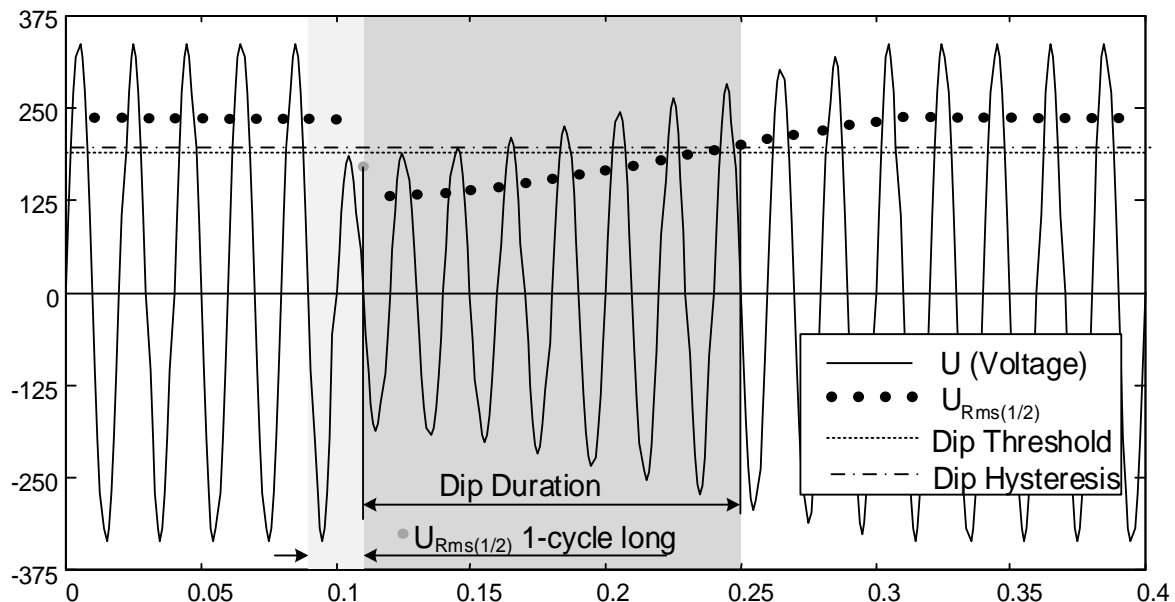
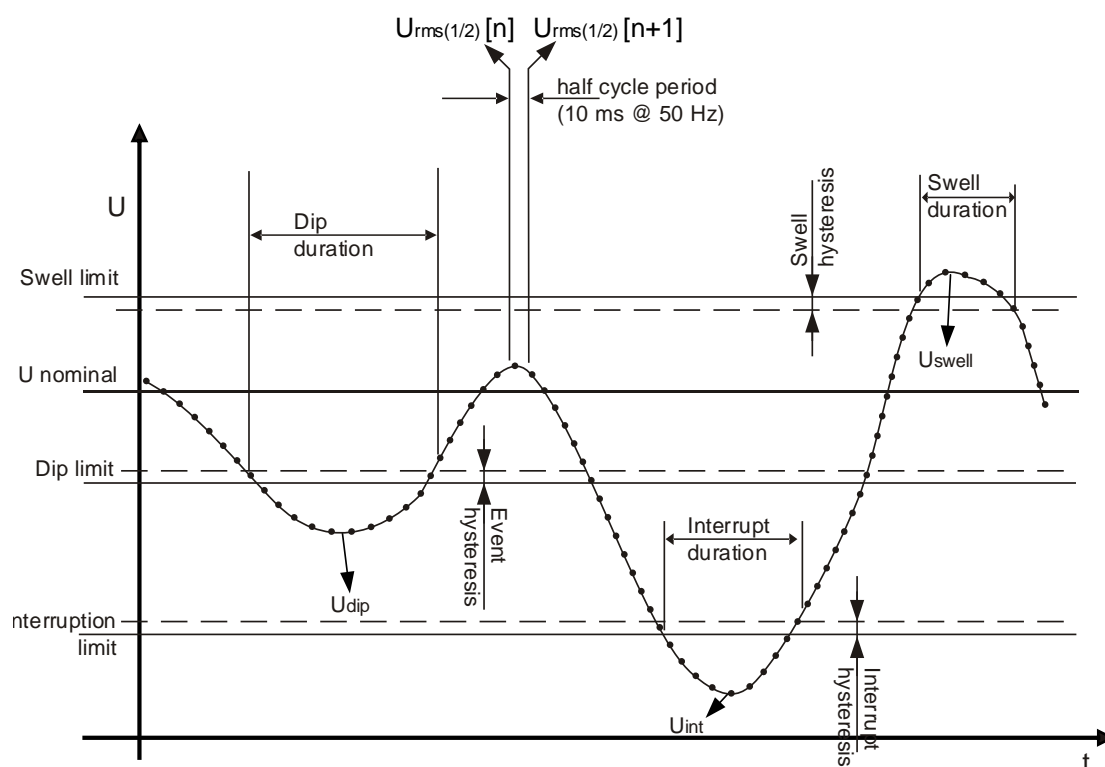

Figure 5.9:  $U_{Rms(1/2)}$  1-cycle measurement
Figure 5.10 Voltage events definition
- On single-phase system (Connection type: 1W), a voltage dip begins when the  $U_{Rms(1/2)}$  voltage falls below the dip threshold, and ends when the  $U_{Rms(1/2)}$  voltage is equal to or above the dip threshold plus the hysteresis voltage (see Figure 5.10 and Figure 5.9).
- On single-phase system (Connection type: 1W), a voltage swell begins when the  $U_{Rms(1/2)}$  voltage rises above the swell threshold, and ends when the  $U_{Rms(1/2)}$  voltage is equal to or below the swell threshold plus the hysteresis voltage (see Figure 5.10 and Figure 5.9),
- On single-phase system (1W), a voltage interruption begins when the  $U_{Rms(1/2)}$  voltage falls below the voltage interruption threshold and ends when the  $U_{Rms(1/2)}$  value is equal to, or greater than, the voltage interruption threshold plus the hysteresis (see Figure 5.10 and Figure 5.9),